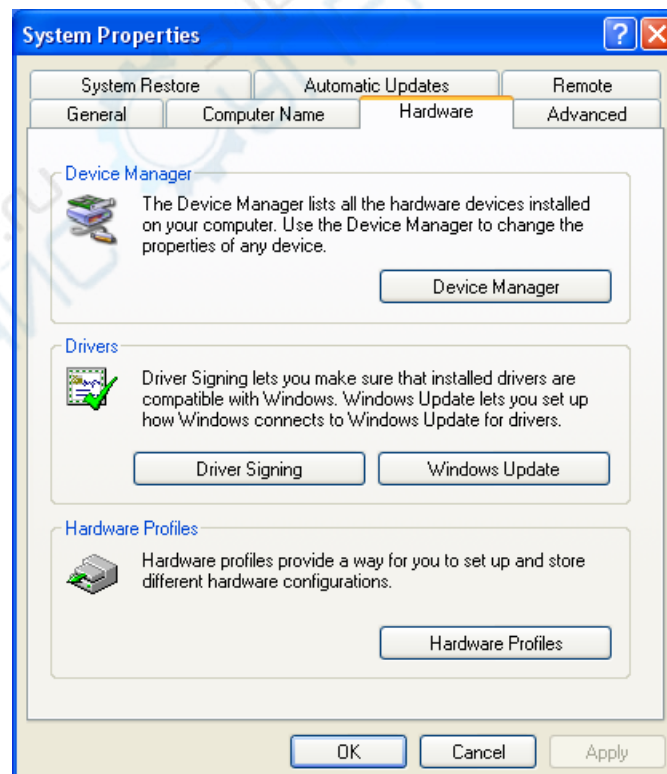
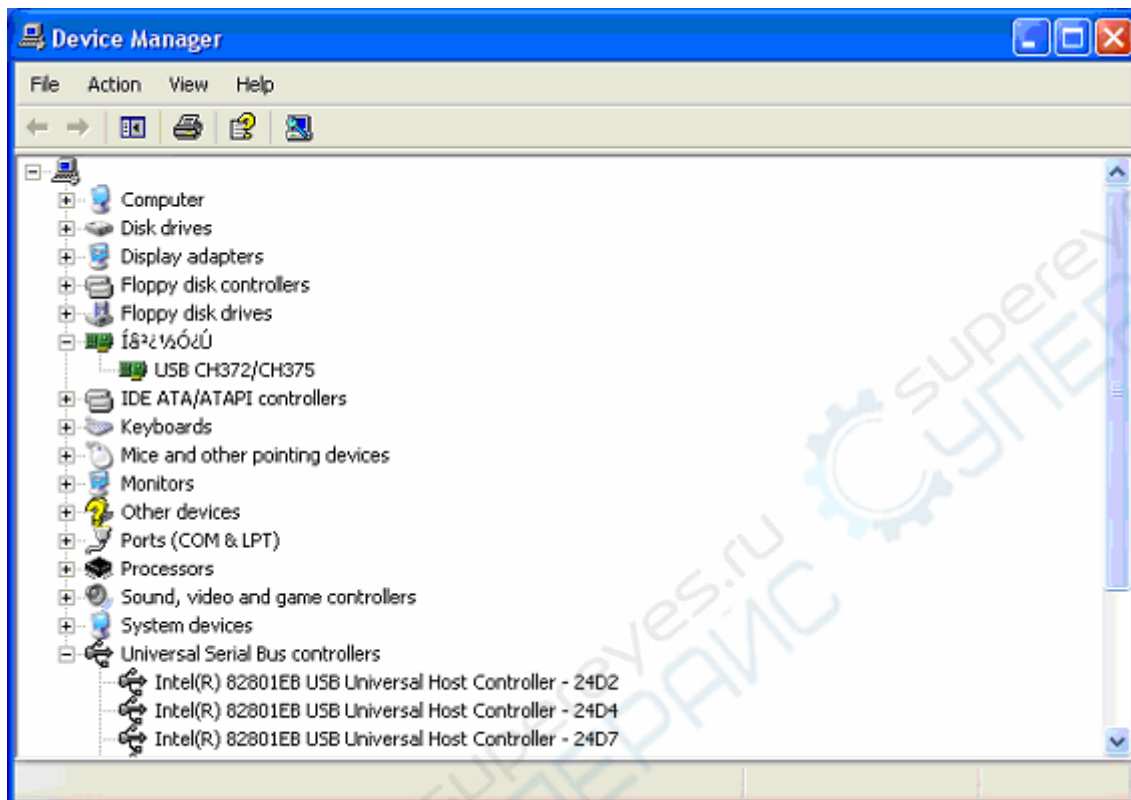

Figure 4-4
Figure 4-5
- ③ Select HARDWARE in Figure 4-3. Figure 4-4 is displayed.
- ④ Select EQUIPMENT MANAGER (D) in Figure 4-4. Figure 4-5 pops up.
- ⑤ In EXTERIOR INTERFACE in Figure 4-5, delete OSCILLOSCOPE to restart the oscilloscope. Select automatic driver update to upgrade the software.